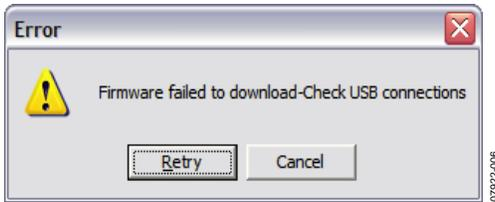

Figure 6. Expected Error Message
- The message shown in Figure 6 will appear because the firmware code, which is downloaded to the evaluation board EEPROM memory each time the interface software program is opened, has not yet been downloaded. The firmware code cannot be downloaded yet because there is no USB connection between the computer and the AD7294 evaluation board at this stage; therefore, this error message is to be expected.